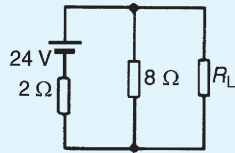

Figure 13.87
2. Determine the value of the load resistance  $R_L$  shown in Fig. 13.87 that gives maximum power dissipation and find the value of the power.